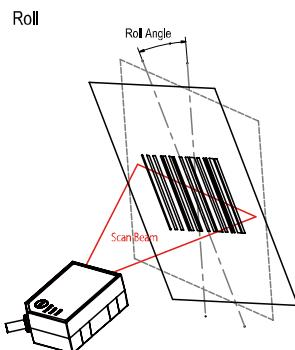

Figure 2 Skew, Pitch and Roll Angle Illustration
- (b) When placing the barcode label, one must be careful not to over tilt, skew and/or pitch the barcode (Refer to figure 2)